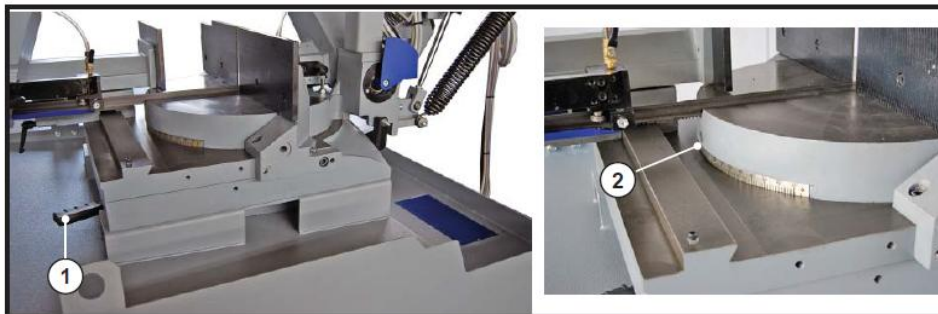

Fig. 8-11
- Release the lever (1 fig. 8-11), pushing it to the right and manually rotate the sawframe to the desired angle with reference to the index (2 Fig. 8-11).
- When the miter is set push the lever (1 Fig. 8-11) to the left to lock the sawframe of rotation.